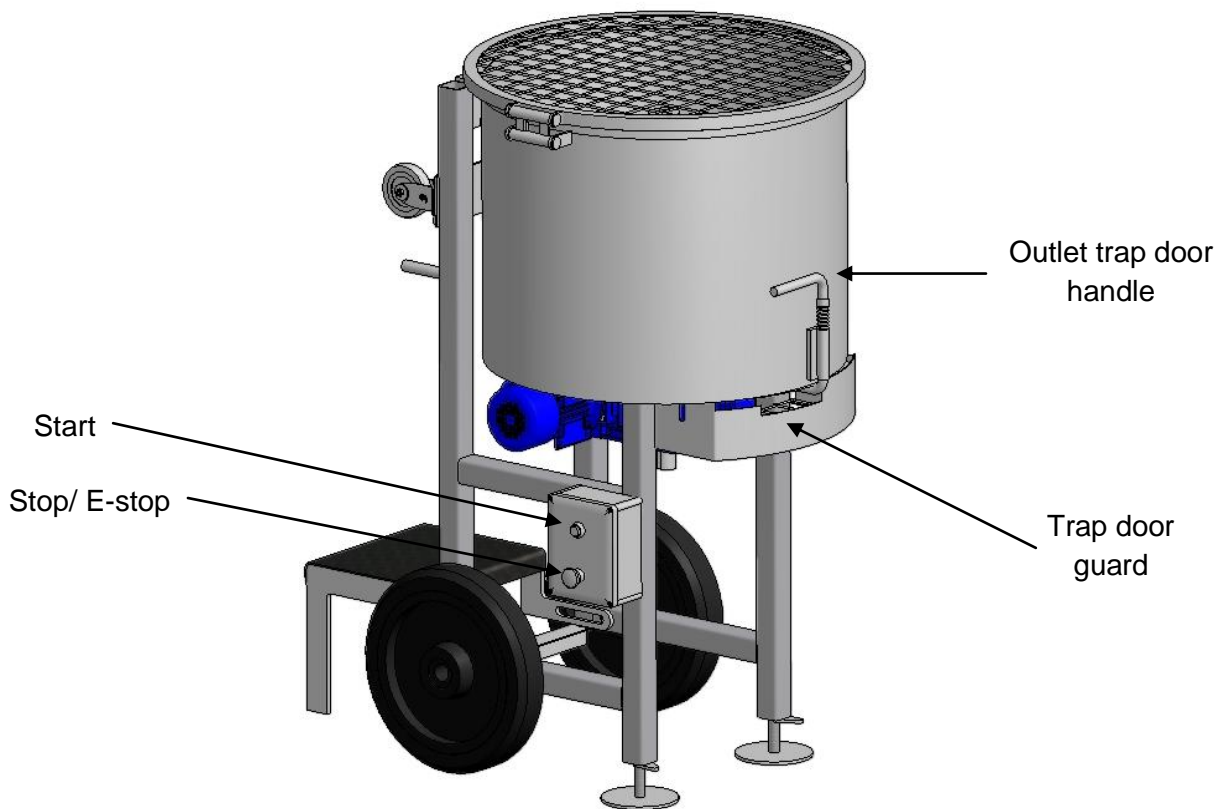

Fig 1
- 2) Press start and once the required consistency has been achieved place a suitable container (wheelbarrow) under the outlet trap door (fig.1). The door height has been designed to fit a standard size wheelbarrow underneath.